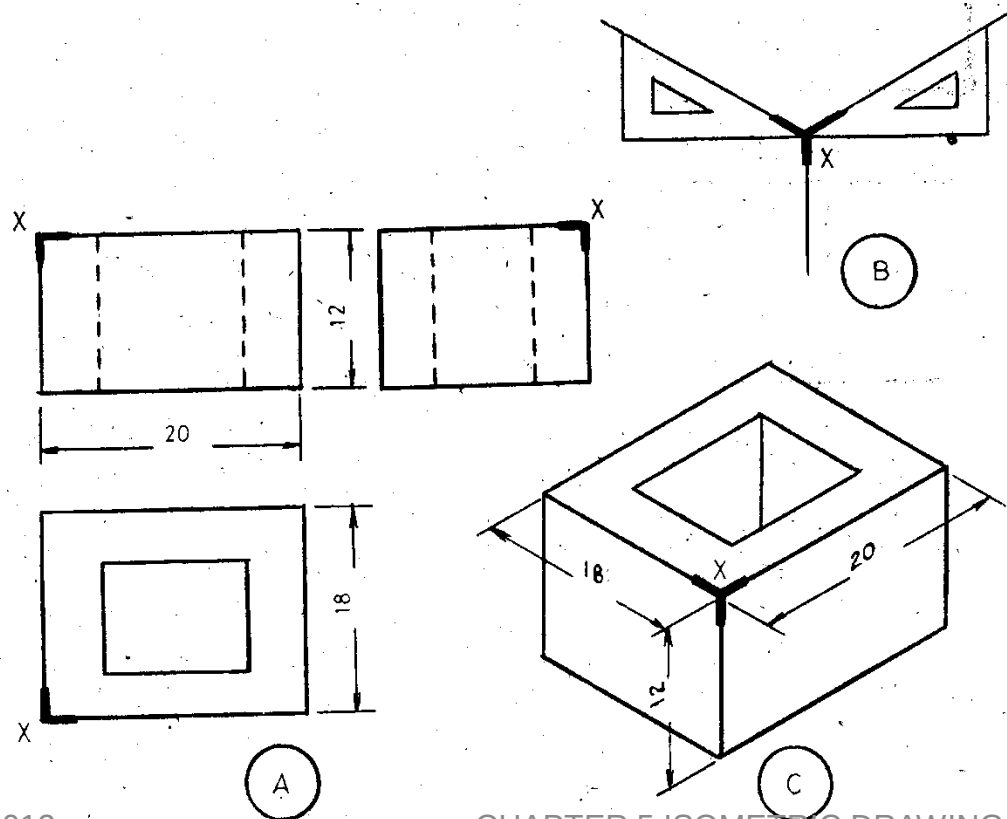

FIG. 5.5
If the object is rectangular (Fig. 5.5) start with a point representing a front corner (X), as shown at (A) with heavy lines, and draw from it three isometric axes 120° apart (B), one vertical, the other two with 30° triangle. On these three lines measure the height, width and depth of the object, as indicated at (C). Through the points so determined draw lines parallel to the axes, completing the figure. When drawing is isometric, remember the direction of the three principal isometric planes. Hidden lines are omitted except when they are needed to describe the piece.